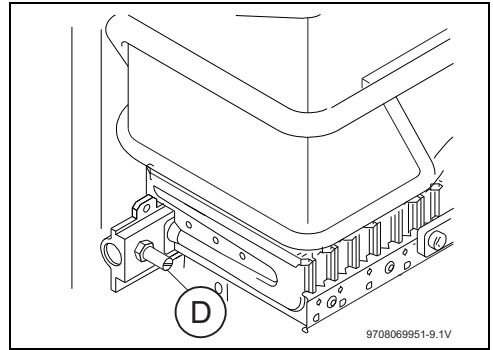

Fig. 9 Burner pressure measurement point
- ▶ Loosen the burner test point captive screw (→ Fig. 9 [D]).